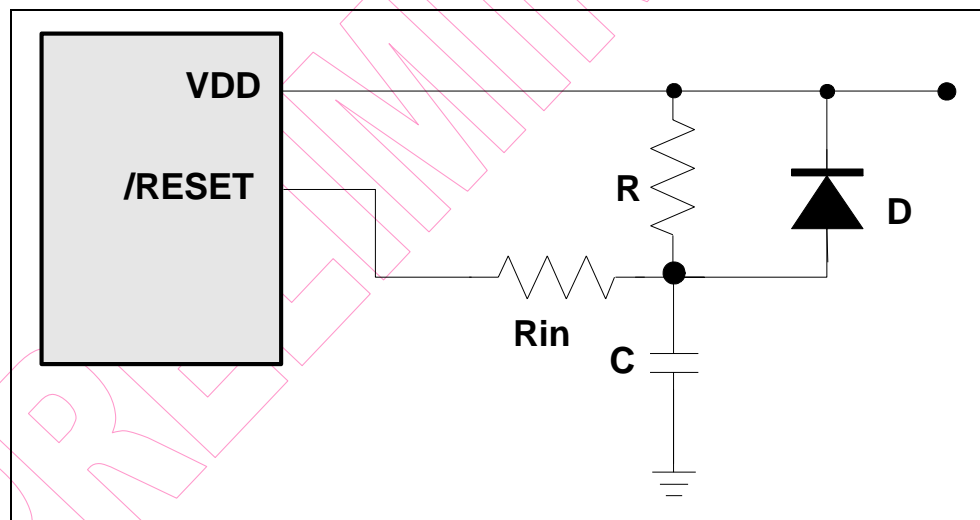

Fig. 6-12 External Power-on Reset Circuit
The circuit shown in Fig.6-12 implements an external RC to produce a reset pulse. The pulse width (time constant) should be kept long enough to allow VDD to reach minimum operation voltage. This circuit is used when the power supply has a slow rise time. Because the current leakage from the /RESET pin is about  $\pm 5\mu\text{A}$ , it is recommended that R should not be greater than 40K. In this way, the voltage at Pin /RESET is held below 0.2V. The diode (D) acts as a short circuit at power-down. The capacitor, C, is discharged rapidly and fully. Rin, the current-limited resistor, prevents high current discharge or ESD (electrostatic discharge) from flowing into Pin /RESET.